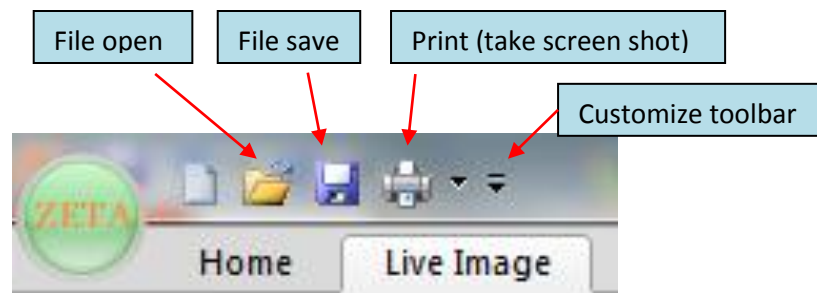

Fig. 16. Quick access toolbar
The upper left corner of the screen contains a toolbar which contains icons to select frequently used computer operations, as shown in Fig. 16. Customize the toolbar by clicking on the down arrow at the far right side.
1. Click on the *File open* icon shown in Fig. 16 to start the Windows file open dialog.